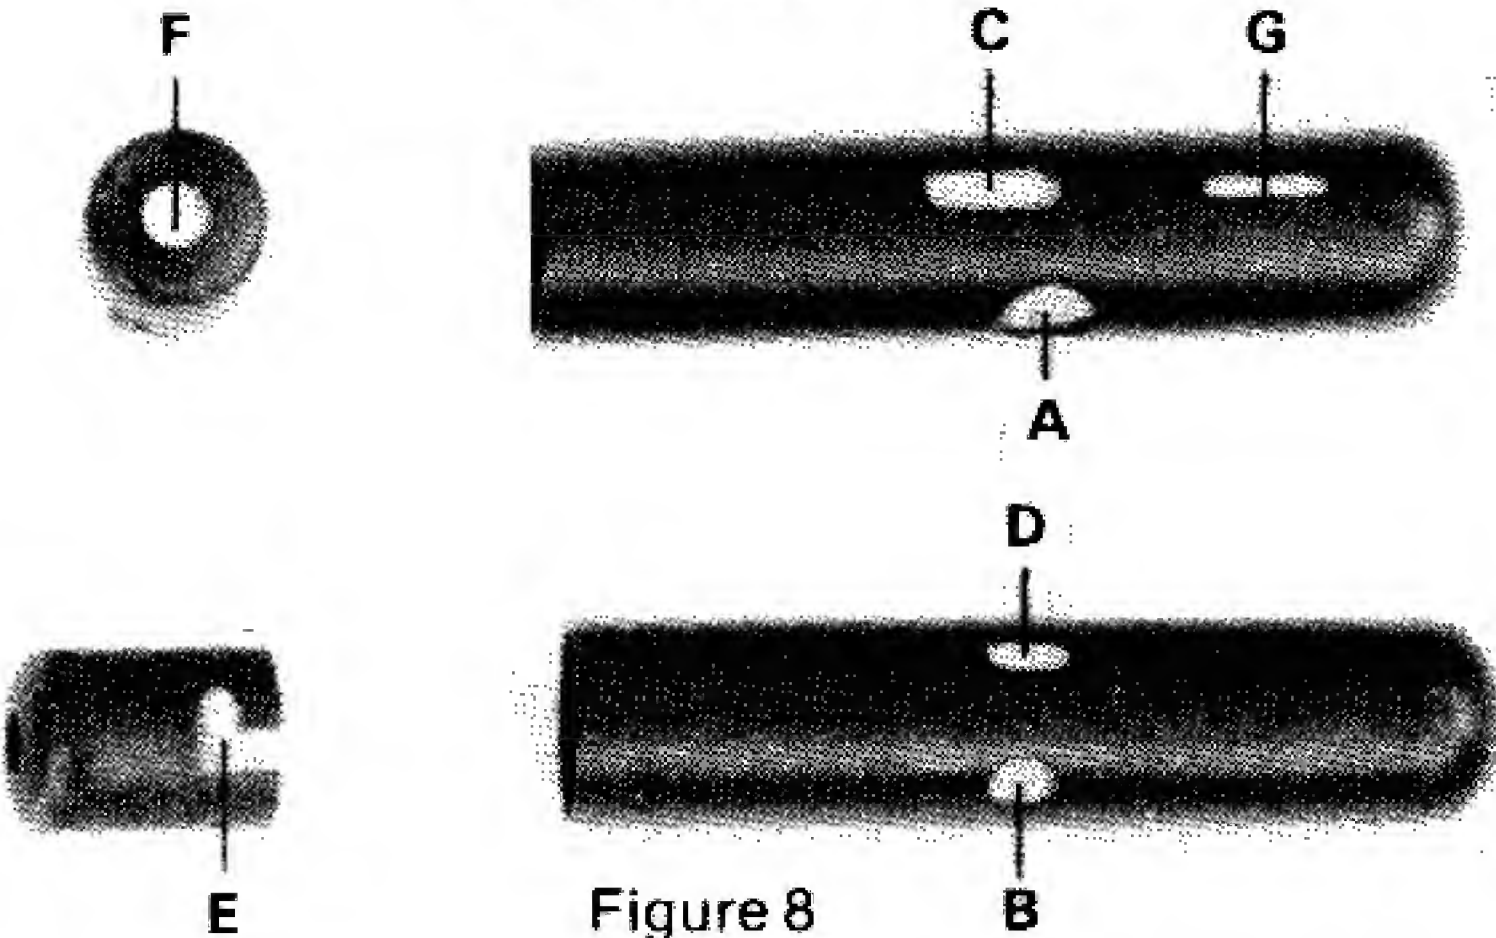

Figure 8
- 1. Insert the small end of the cleaning rod through the large hole in the accessory case so that the head of the cleaning rod passes inside the accessory case and butts against the case wall. (See Figure 8.)